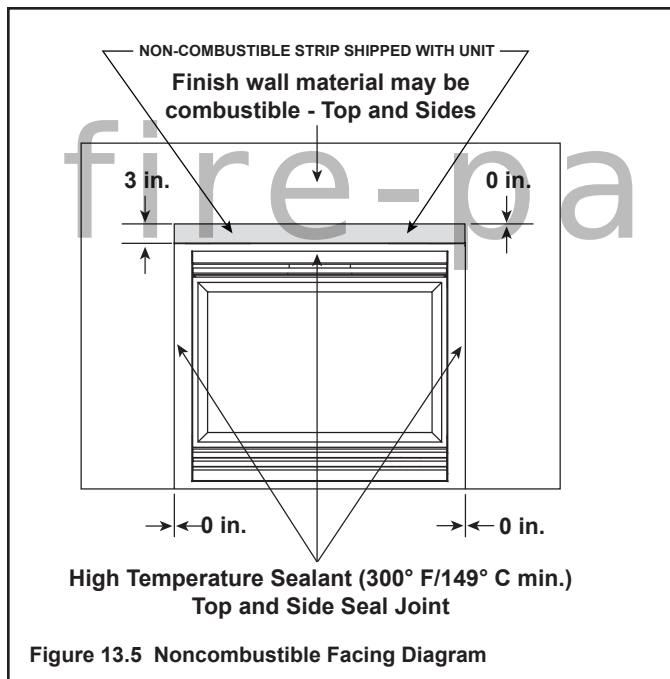

Figure 13.5 Noncombustible Facing Diagram
- Seal joints between the finished wall and appliance top and sides using a 300 °F minimum sealant. Refer to Figure 13.5 and 13.6.